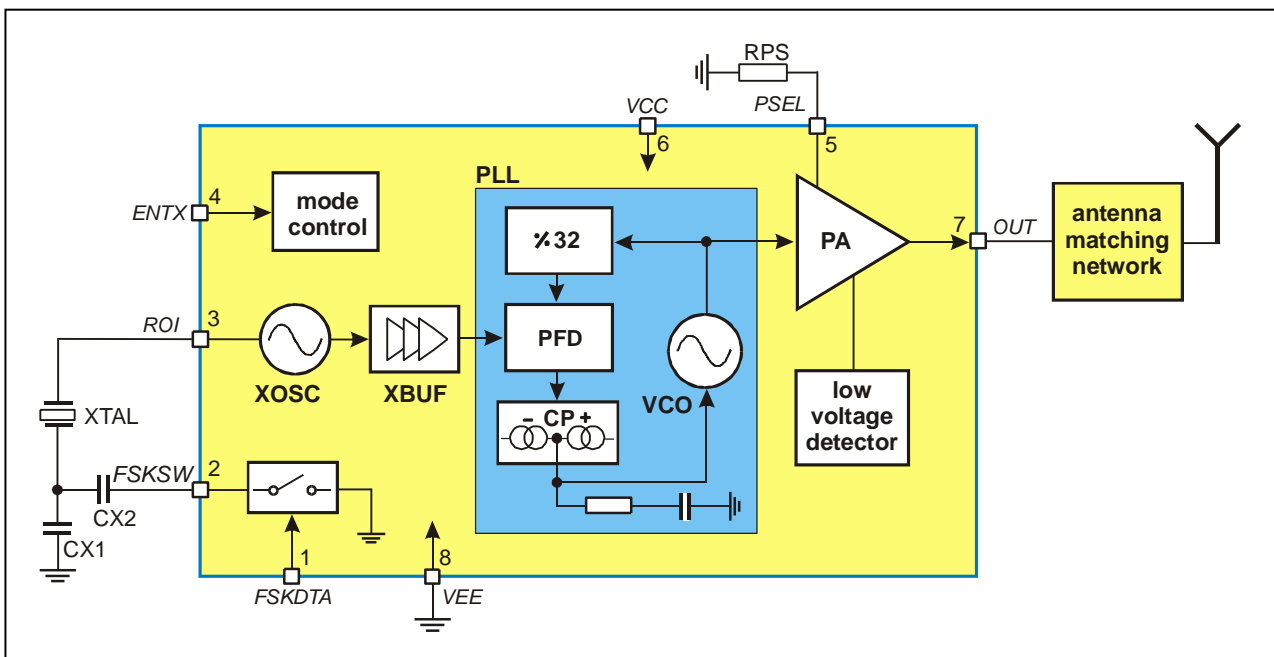

Fig. 1: Block diagram with external components
As depicted in Fig.1, the TH72001 transmitter consists of a fully integrated voltage-controlled oscillator (VCO), a divide-by-32 divider (div32), a phase-frequency detector (PFD) and a charge pump (CP). An internal loop filter determines the dynamic behavior of the PLL and suppresses reference spurious signals. A Colpitts crystal oscillator (XOSC) is used as the reference oscillator of a phase-locked loop (PLL) synthesizer. The VCO's output signal feeds the power amplifier (PA). The RF signal power P_{out} can be adjusted in four steps from $P_{out} = -12$ dBm to +11 dBm, either by changing the value of resistor RPS or by varying the voltage V_{PS} at pin PSEL. The open-collector output (OUT) can be used either to directly drive a loop antenna or to be matched to a 50ohm load. Bandgap biasing ensures stable operation of the IC at a power supply range of 2.1 V to 5.5 V.